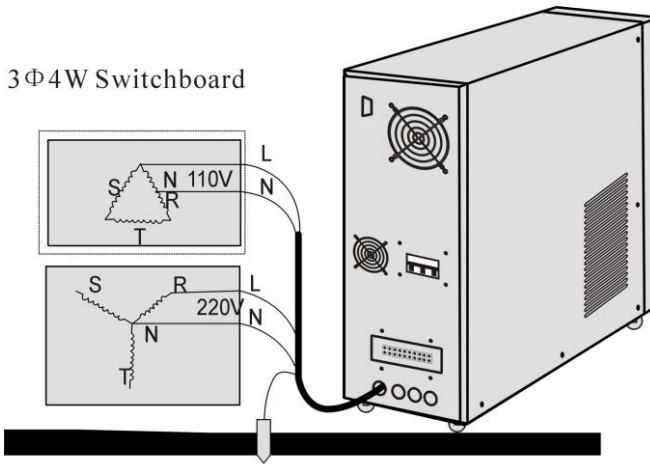

Figure 16
7. Connect ground to the UPS ground stud and to the supply switch board. Please refer to figure 16.